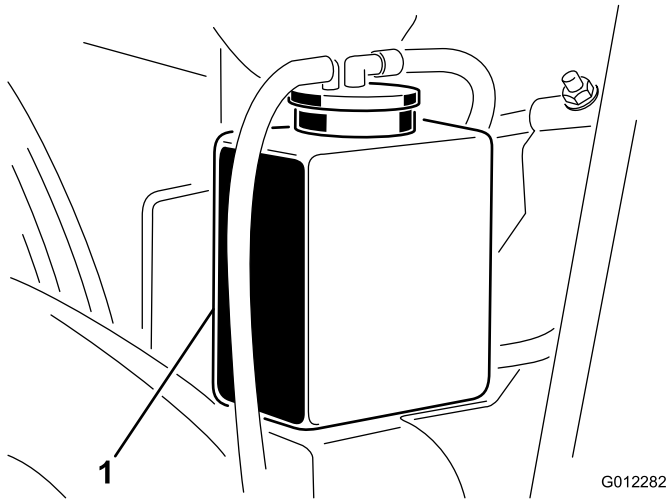
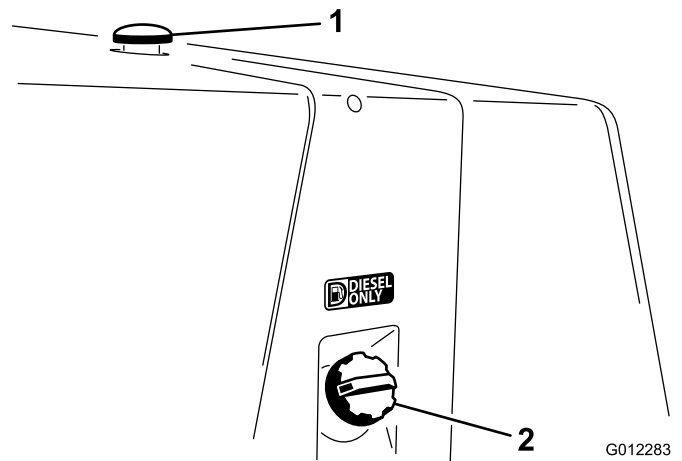

Figure 12
Figure 13
1. Carefully remove the radiator cap (Figure 13) and expansion tank cap (Figure 12).
2. Check level of coolant in radiator. Radiator should be filled to the top of the filler neck and the expansion tank filled to the marks on its side (Figure 12).
3. Remove cap from the fuel tank (Figure 13).